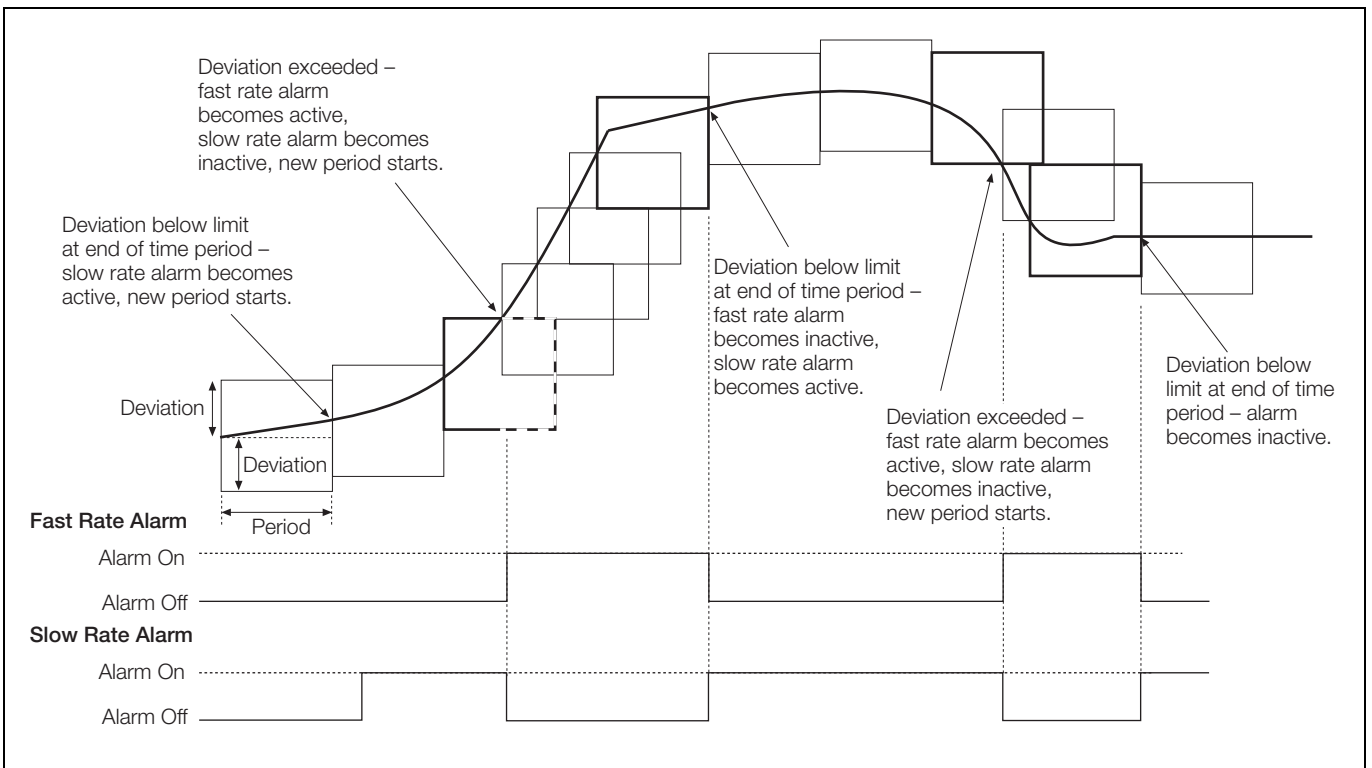

Fig. 4.14 Fast-/Slow-Rate Alarms
- High/Low annunciate – see Fig. 4.14, page 79
**Note.** Annunciate alarms only – see Fig. 4.14.
- Rate alarms only – see Fig. 4.14.